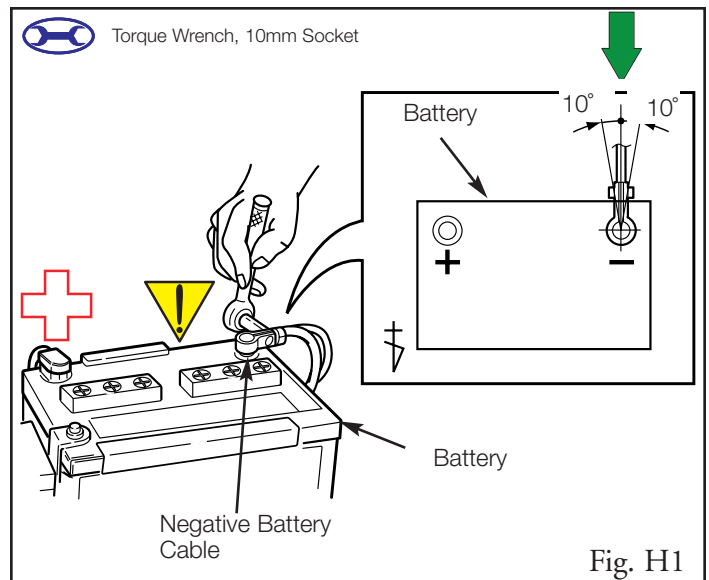

Fig. H1
- 3. Reconnect the vehicle's negative battery cable. (Fig.H1)